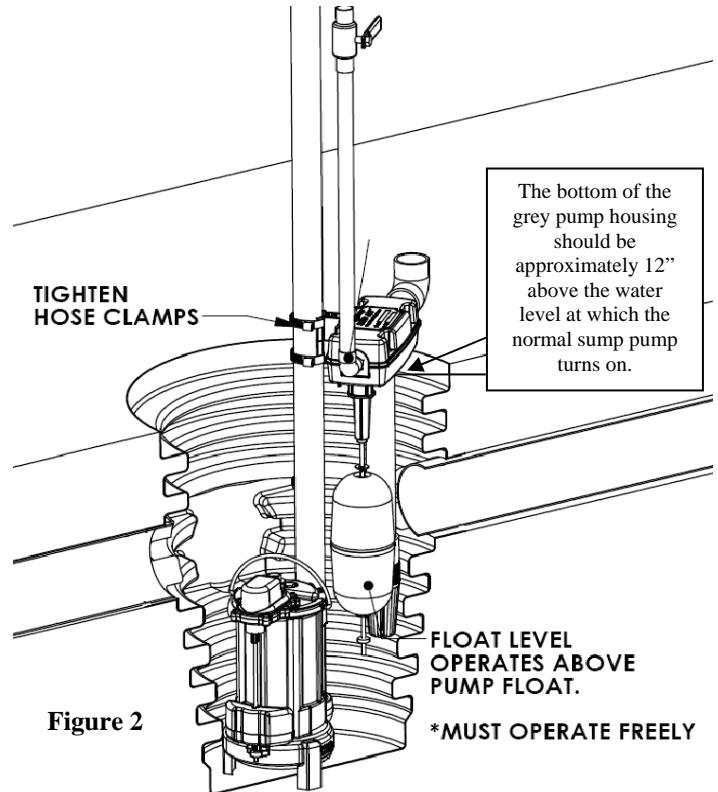

Figure 2
- 3-5** Using the Hose clamps provided, mount the **SumpJet®** to the existing discharge pipe. Place the unit so that the float level will operate a few inches above the turn on level of the existing sump pump. (Refer to figure 2). Tighten hose clamps on discharge pipe. NOTE: If this type of installation will not work refer to alternate installation **3-17**.